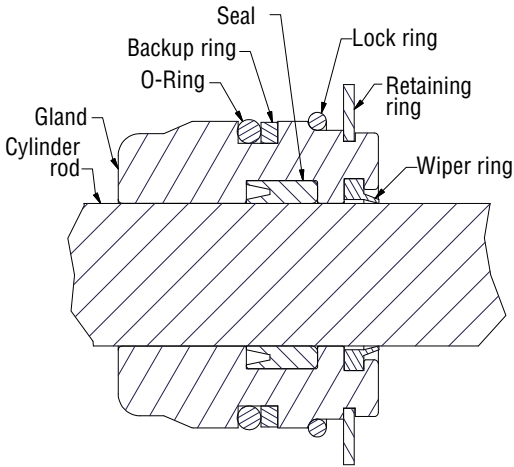

Figure 4-6, Gland Cap Seal
3. Install the seals and wipers in the gland cap. Note the direction of the seals. The cupped side or O-ring side of the seal should be facing the piston. (Figure 4-6)